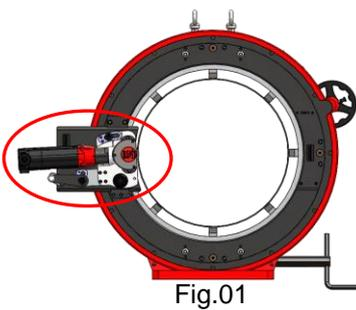

Fig.01
- Place the cutting motor in the horizontal position (Fig.01).